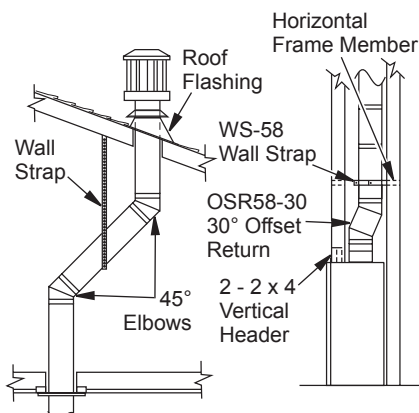

Figure 26 - 45° and 30° Offset with Wall Strap
1. Determine the route your vertical venting will take. If ceiling joists, roof rafters or other framing will obstruct the venting system, consider an offset (see Figure 26) to avoid cutting load bearing members. **Note:** Pay special attention to these installation instructions for required clearances (air space) to combustibles when passing through ceilings, walls, roofs, enclosures, attic rafters, etc. Do not pack air spaces with insulation. Also note maximum vertical rise of the venting system and any maximum horizontal offset limitations.
Note: If an offset is needed to avoid obstructions, you must support the vent pipe every 3 feet. Use wall straps for this purpose (see Figure 26, page 16). Whenever possible, use 45° elbows instead of 90° elbows. The 45° elbow offers less restriction to the flow of the flue gases and intake air.
5. Place the flashing over the pipe section(s) extending through the roof. Secure the base of the flashing to the roof and framing with roofing nails. Be sure roofing material overlaps the top edge of the flashing as shown in Figure 26, page 16. There must be a 1" clearance from the vent pipe to combustible materials.